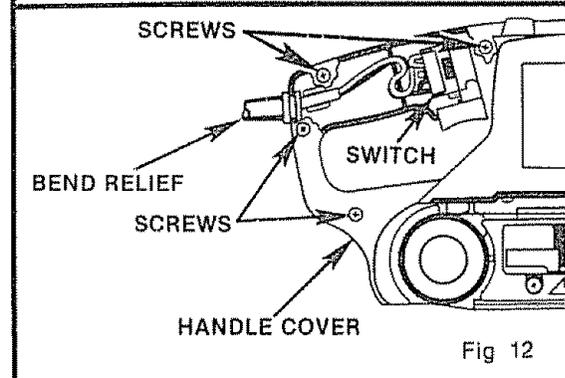

Fig. 12
1. Remove the handle cover and screws. **NOTE THE LOCATIONS OF ALL WIRING IN THE HANDLE AND HOW EACH CONNECTION IS MADE TO THE SWITCH.** Connections and wiring position must be identical when installing the new switch. See Figure 12.
4. Arrange the wiring in the handle so that it will not be pinched or contact screws when the handle cover and screws are replaced, then position the switch in place. See Figure 12.
5. Place the cord and bend relief in their correct locations. See Figure 12.